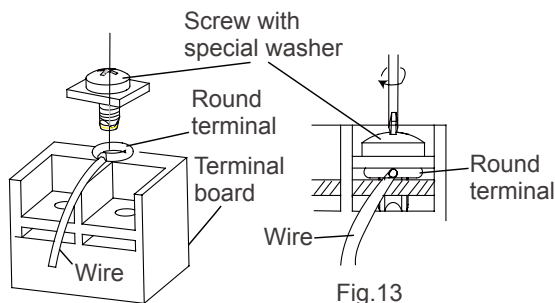

Fig.13
- 4). Position the round terminal wire, and replace and tighten the terminal screw with a screwdriver.(Fig.13)